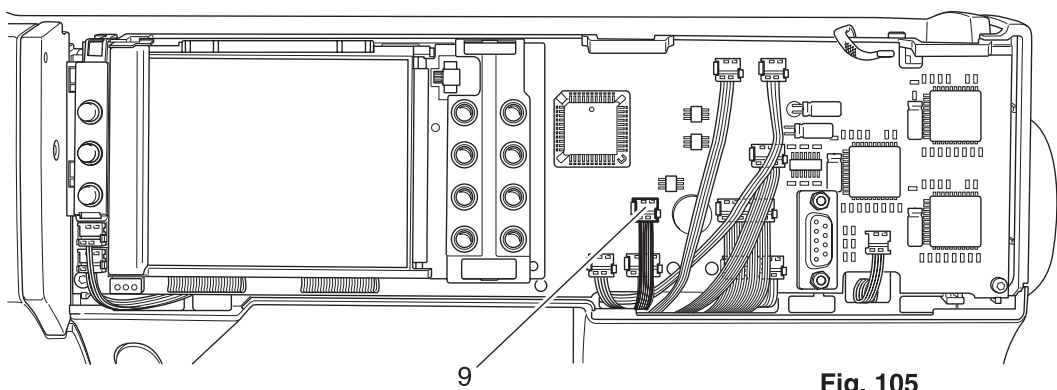

Fig. 105
- Remove connection plug 9 from the circuit board of the front housing panel and pull the cable downward (fig. 105).
- Mount connection plug 9 onto the circuit board of the front housing panel (fig. 105).